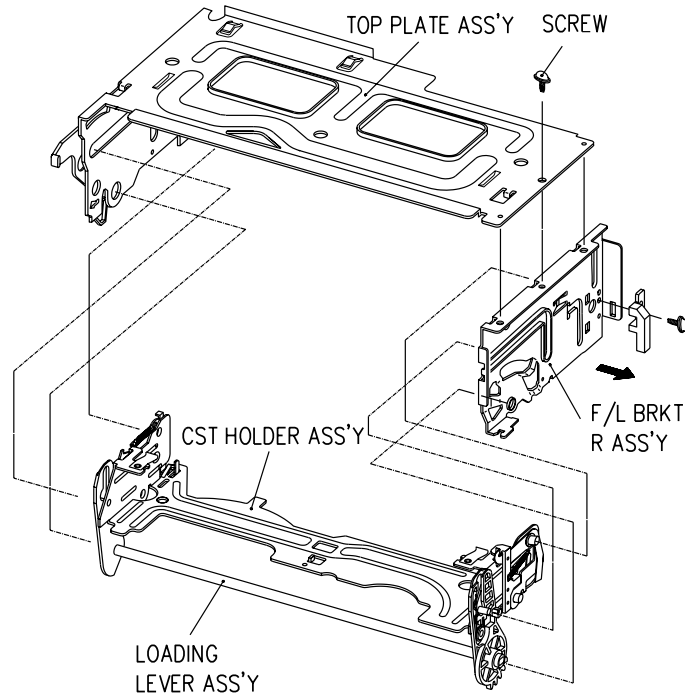

Fig.3-2 DISASSEMBLY OF THE FRONT LOADING ASS'Y
- b. Remove the CASSETTE HOLDER ASSEMBLY. (Fig. 3-2)